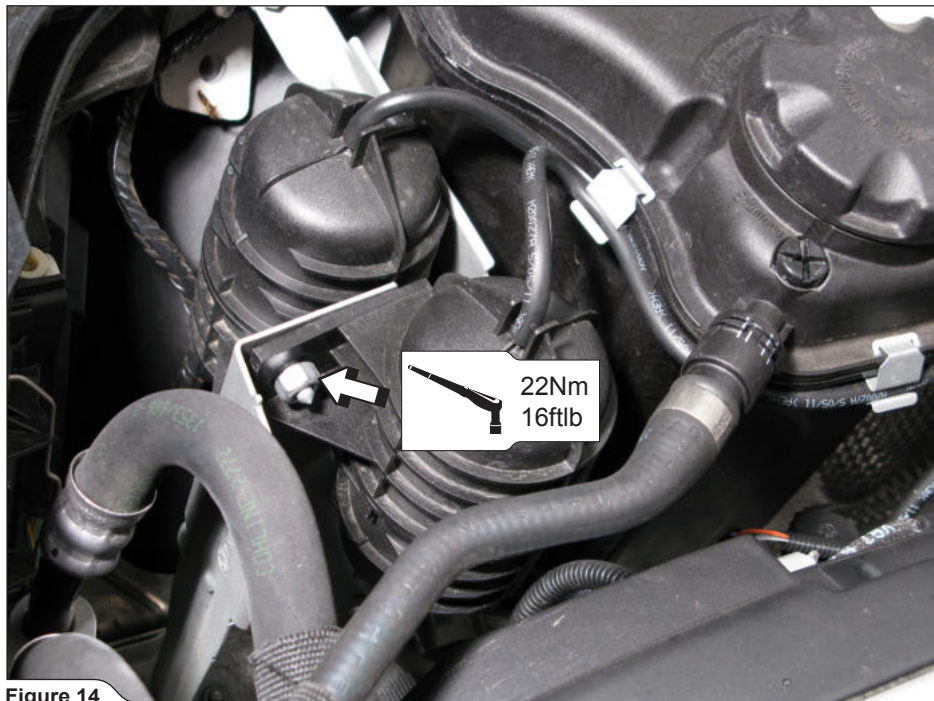

Figure 14
10. Link the Akrapovič 3cm vacuum hose to the vacuum tank and reassemble the vacuum tank back to its original position (**Figure 14**).